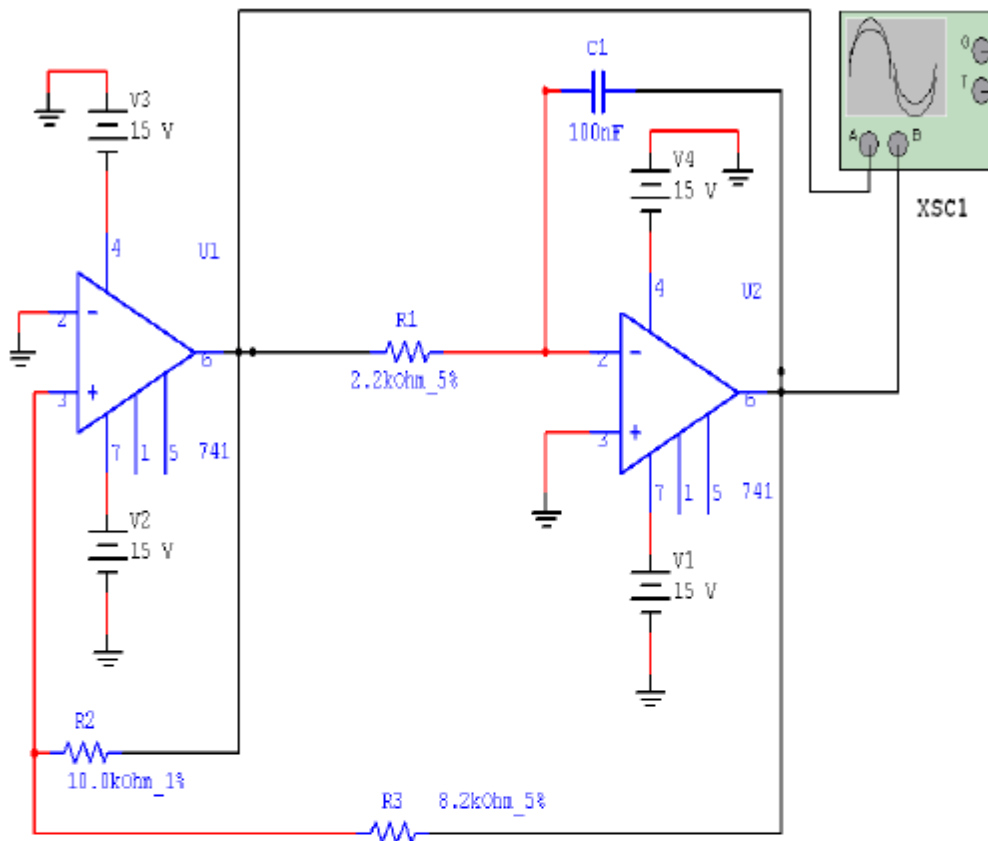

Fig.15 Triangle wave
- Construct the circuit shown in Fig.15.